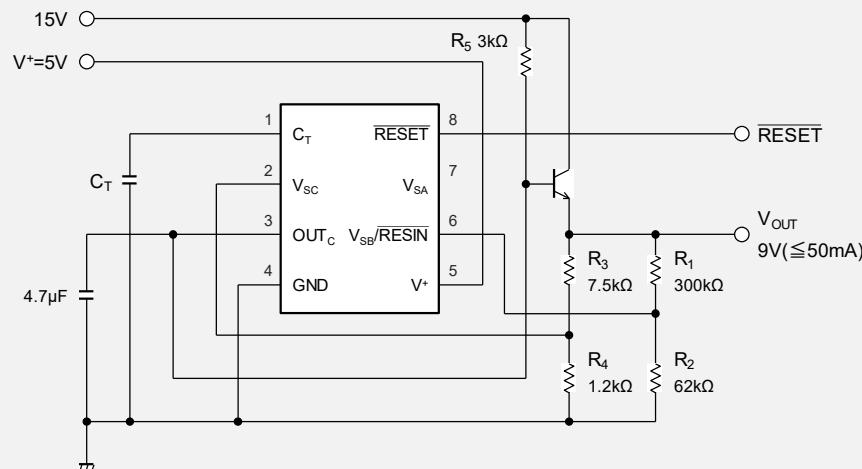

Fig. 11 Reference voltage output and voltage drop monitoring (e.g. 9V reference output, 5V, 9V monitoring)
- The reference voltage V_{OUT} and its detection voltage are calculated as the following formula. In case of resistor value in Fig.11, the reference voltage V_{OUT} is about 9.0V, the detection voltage (V_{OUT} falling) is about 7.2V and the detection voltage (V_{OUT} rising) is about 7.3V